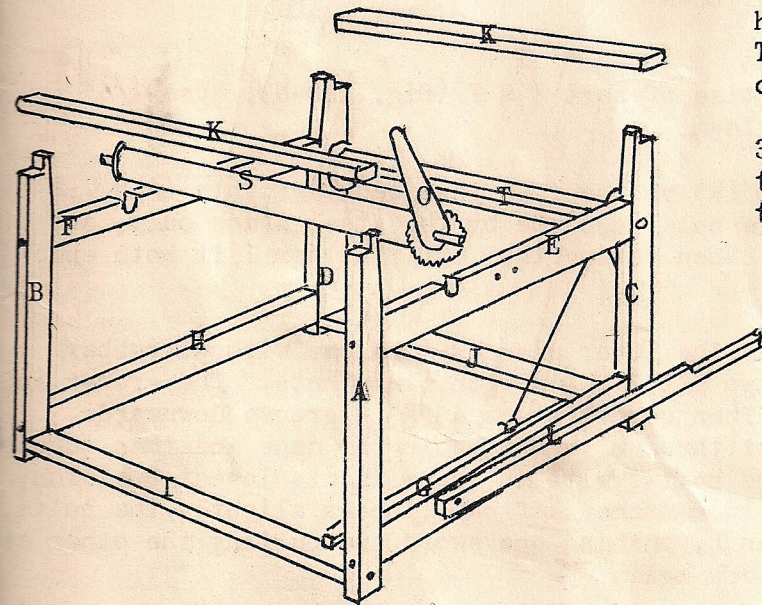

Fig. 102
5. Turn the loom the right side up. (fig. 102).